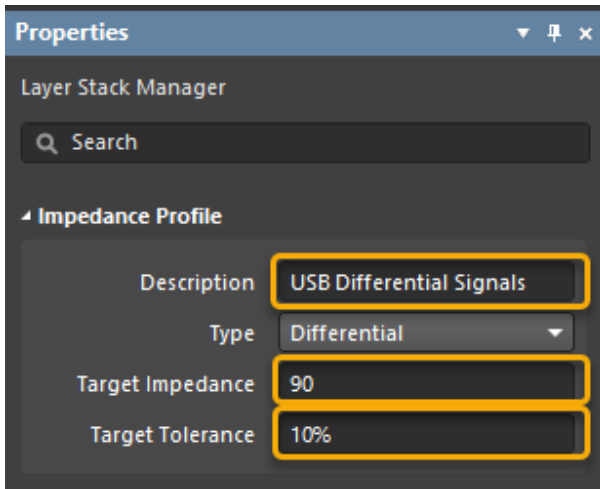

Figure 15. Target Impedance
23. Dock the LSM *Properties* panel on the left, if not already docked, and enter the following information, Figure 15: